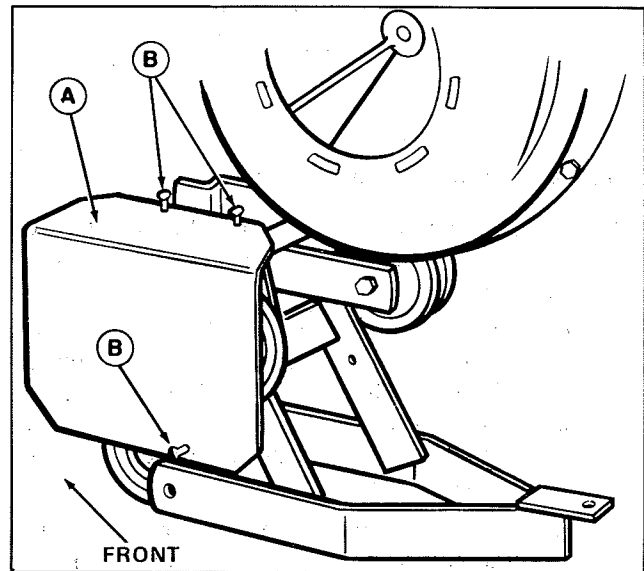
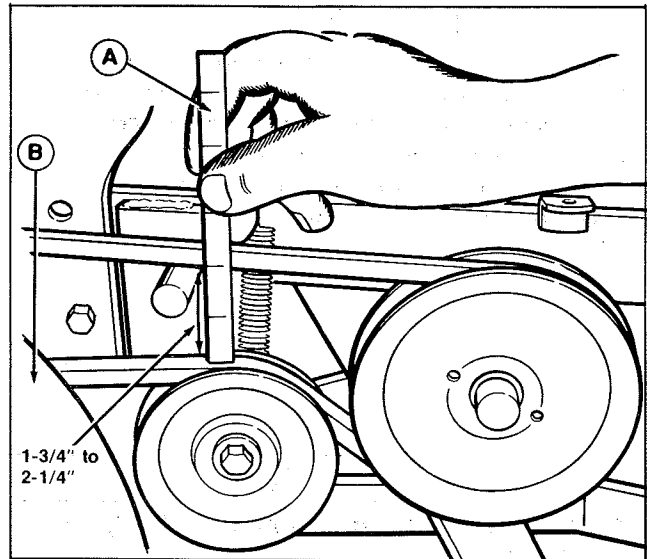

Figure 5. Shield Installed Left-Hand Side
**Figure 11. Belt Adjustment**
3. Remove the shield (A, figure 5) by removing the three wing screws (if installed).
5. Install the pulley shield (A, figure 5) to left side as shown in figure 5 with the three wing screws. (The three shield brackets are shown in figure 13).
3. Remove vacuum collector drive belt from tractor PTO pulley. To loosen tension on the belt, it can be slipped off the idler pulley. If necessary, remove the shield (A, figure 5) for clearance. Reinstall the shield and three wing screws to avoid loss.
Early model vacuum collectors do not have the eccentric washer (A, figure 11) which makes belt adjustment possible.
To gain access for adjustment, remove the shield (A, figure 5) by removing the three wing screws. Be sure to reinstall the shield after completing the adjustment.
Loosen the two cross shaft screws (D, figure 11). (There is one screw on each side.) Loosen the nut (C) just enough so that the eccentric washer (A) can be rotated. The eccentric washer can be rotated by tapping the edge with a hammer.
When adjustment is correct, tighten the two cross shaft screws (D, figure 11). Reinstall the shield (A, figure 5). The shield brackets are shown in figure 13.
9. The shield and three wing screws can be installed after the vacuum collector has been installed on tractor (see Installation). The shield is shown in figure 5.